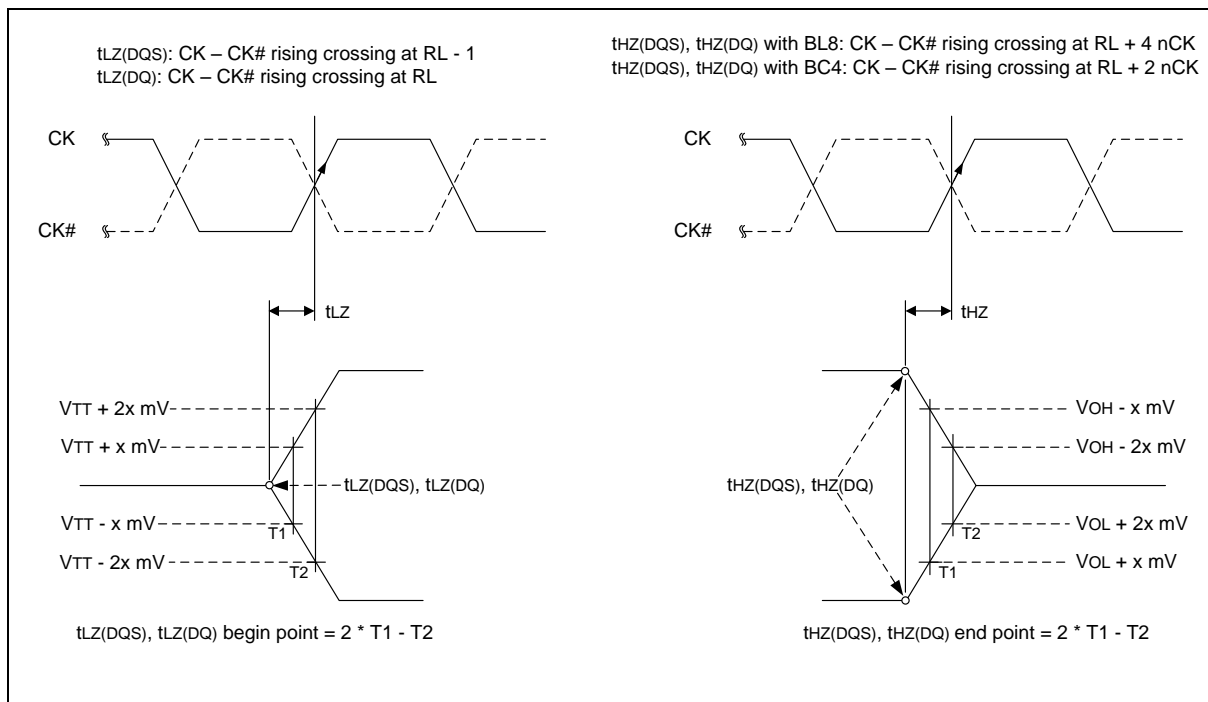

Figure 26 – tLZ and tHZ method for calculating transitions and endpoints
$t_{LZ}(DQS)$ ,  $t_{HZ}(DQS)$  for preamble/postamble (see section 9.13.2.3 and Figure 26).
tHZ and tLZ transitions occur in the same time window as valid data transitions. These parameters are referenced to a specific voltage level that specifies when the device output is no longer driving tHZ(DQS) and tHZ(DQ), or begins driving tLZ(DQS), tLZ(DQ). Figure 26 shows a method to calculate the point when the device is no longer driving tHZ(DQS) and tHZ(DQ), or begins driving tLZ(DQS), tLZ(DQ), by measuring the signal at two different voltages. The actual voltage measurement points are not critical as long as the calculation is consistent. The parameters tLZ(DQS), tLZ(DQ), tHZ(DQS), and tHZ(DQ) are defined as singled ended.